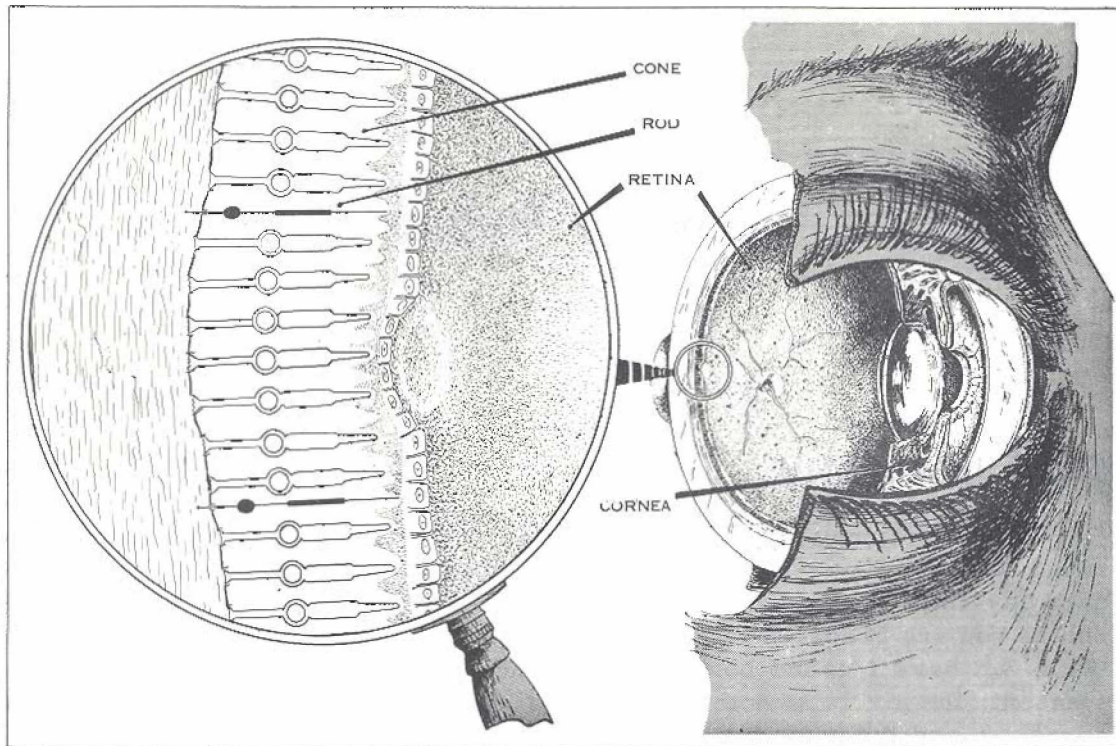

Figure 1: The Construction of the Eye
(1) Your eyes and your mind are a team. To see at night the two have to be working in conjunction, one interpreting the visual impressions relayed by the other. During the day this interpretation is entirely automatic, but at night, the eyes have to be made to see objects clearly enough for the brain to go into action. In daylight all colours are visible while, at night, vision is restricted to shades of gray, except when the light intensity is high enough for the eye to register colour. The discussion of the construction of the eye which follows should help you to understand the problems that must be surmounted.
(2) As an optical instrument, the human eye may be considered to consist of two distinct parts: the cornea with its lens and iris combination to gather and control the amount of light, and the retina consisting of receptor cells to transmit the light image to the brain. The lens and iris combination are often called the pupil. The size of the lens opening through which the light rays reach the retina is controlled by the quantity of light: the lower the light intensity, the larger the lens opening.
(3) The magnification of the human eye in Figure 1 overleaf, shows that the back of your eyes are covered with innumerable light-sensitive nerves in the form of rods and cones. The cones are clustered in the centre of the retina and decrease towards the periphery, while the rods increase in number